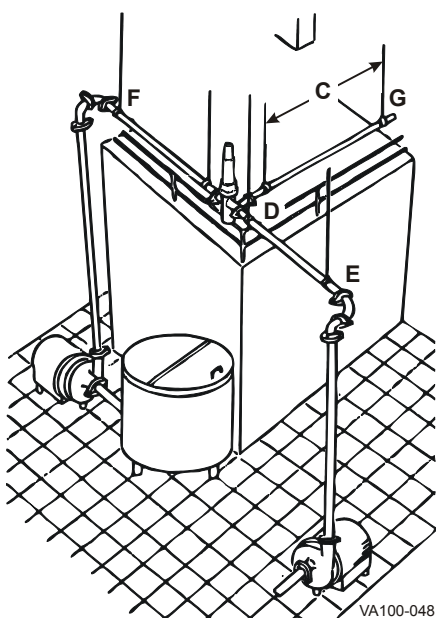

Figure 1 - Pipeline Support
1. Install supports at least every 10 feet on straight runs of piping. (Figure 1, item C).
2. Install supports on both sides of the valves as close as possible to the connections. (Figure 1, item D).
3. Install supports at each change of pipeline direction. (Figure 1, item E and F).
4. For pipelines passing through walls, floors or ceilings, provide at least 1 inch (25 mm) of clearance around the pipe to allow for expansion and contraction. (Figure 1, item G).